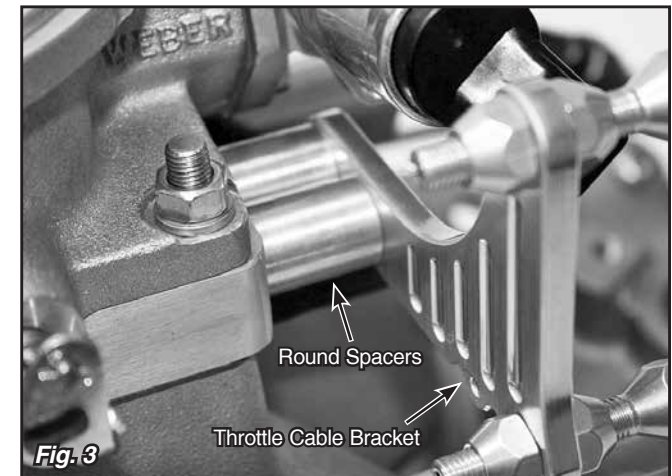

Fig. 3
Step 2: Install the throttle cable bracket onto the spacer plate using the two round spacers and the 1/4"-20 x 1-3/4" flat head bolts. **Fig. 3**